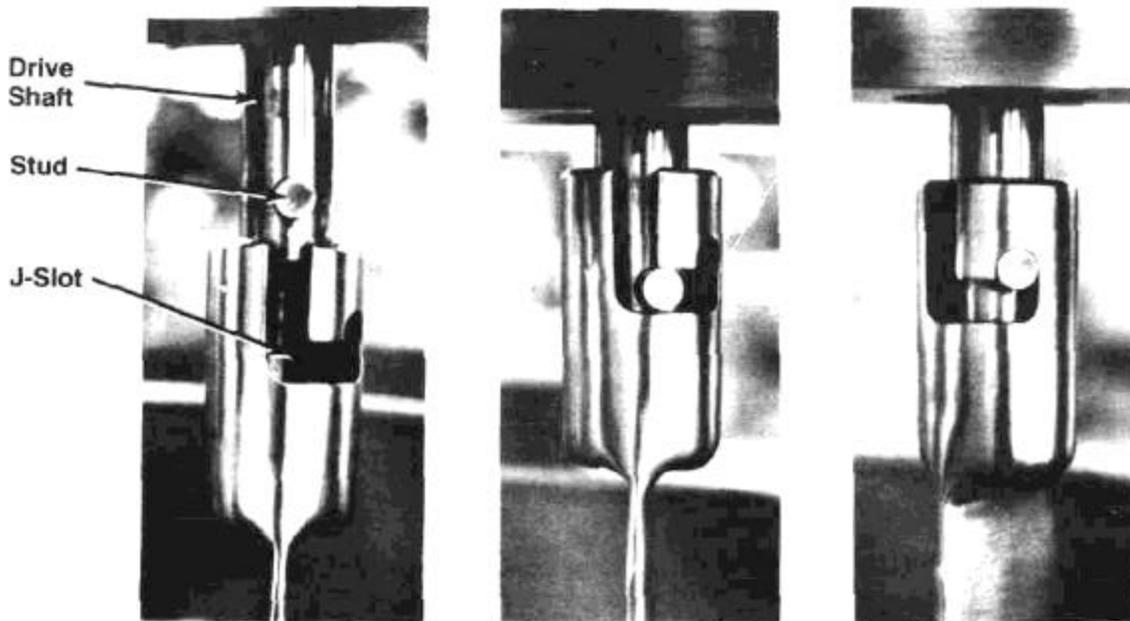

Figure 1
1. Mount the larger (primary) agitator on the drive shaft that operates over the center of the kettle and the smaller (secondary) agitator on the other shaft. Slide the agitator up onto the shaft as far as it will go, then turn the agitator and pull it down, so the stud on the shaft becomes firmly seated against the end of the J-slot. (See Figure 1)